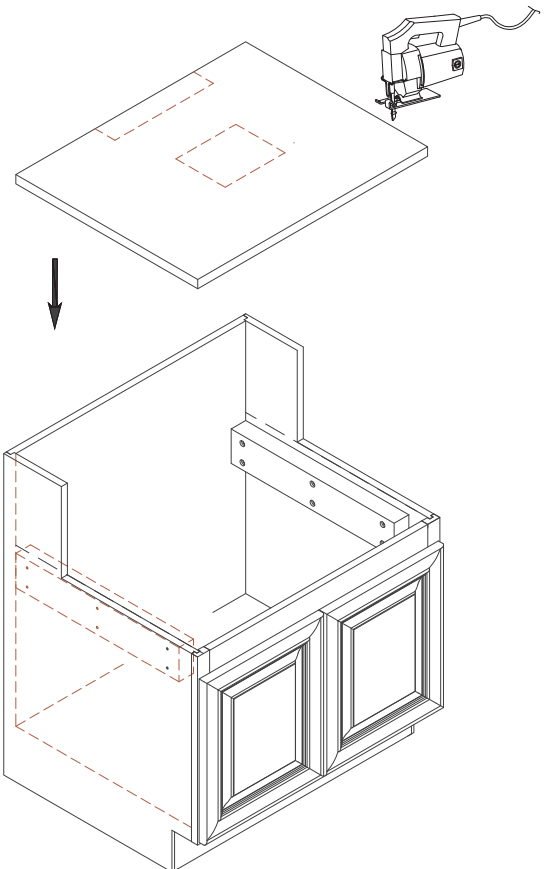

Figure 5.
Step 10: Place the sink over the plywood. Check that the drain and faucet-line cut-outs line-up correctly. Confirm that the sink is leveled and adjust if not. **See Figure 5** (sink shown for illustration only).